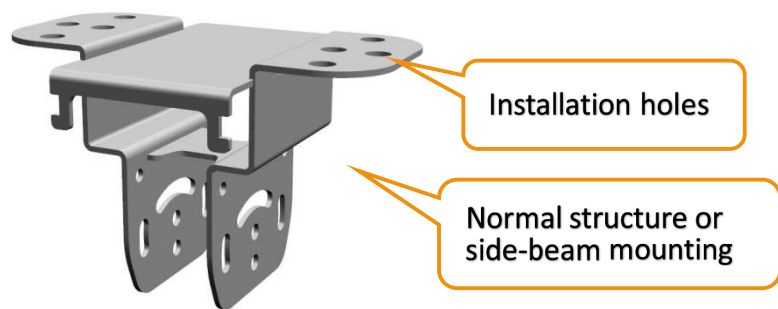

Figure. 1.1
① Drill holes on the ceiling or on the side of the crossbeam. The position of the drill holes must fit the installation holes of the upper mount. Use a $\phi 12\text{mm}$ drill bit to reach a depth of 60-70mm, then fix 2 to 4 expansion bolts (M10*80) on each side, and finally fix the upper mount with nuts (see Figure 1.1)